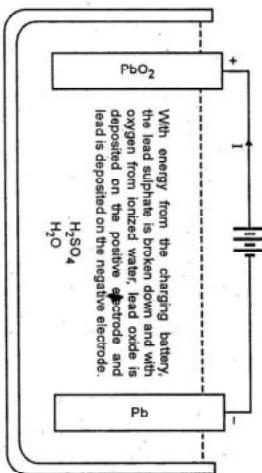

Fig. 4.10.3 : Lead accumulator - recharging
- It is recharged by supplying higher potential, so as to reverse the reaction as shown in Fig. 4.10.3.